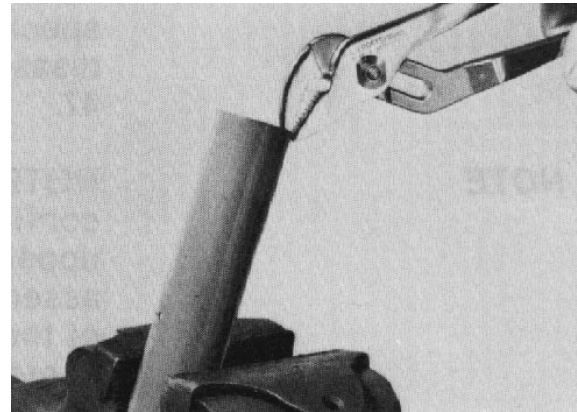

Figure 60
48. Inspect the bushing at the top of the cover & jacket for wear or damage. If bushing replacement is necessary, put the upper cover & jacket in a vise. Use a pliers or punch to straighten the crimped areas on the bushing end of the jacket tube (Fig. 60).